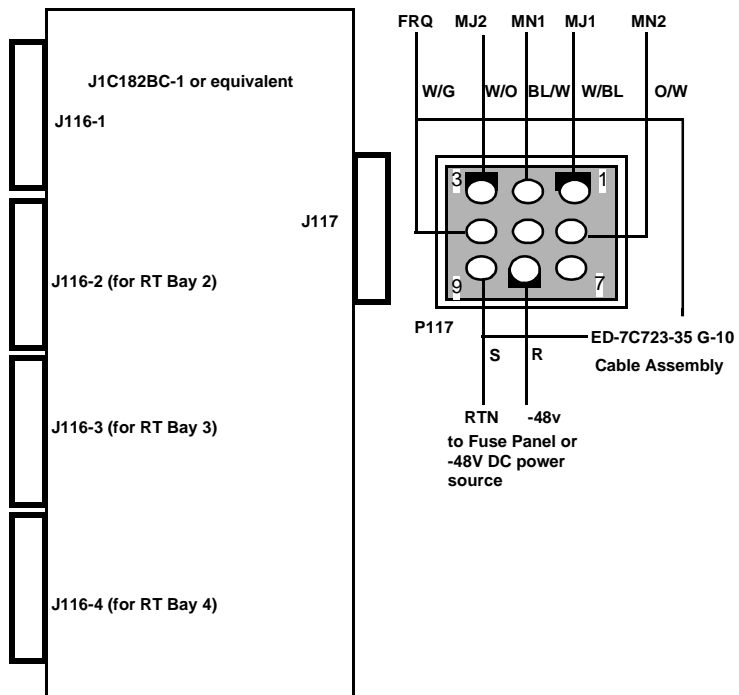

Figure 3-22. SLC Series 5 Power Cabling (J1C182BC-1 Shelf)
13. Connect the alarm leads from the ED-7C723-35, Group 10 cable assembly to the office alarm system per the Work Order. Refer to Table 3-8 and Figure 3-22.
14. Terminate the red (-48V Return) and slate (-48V Load) wires (pins 8 and 9) on the ED-7C723 Group 10 cable attached to the J117 connector on the J1C182BC-1 shelf to a fused -48V DC source. See Figure 3-22 and Note.